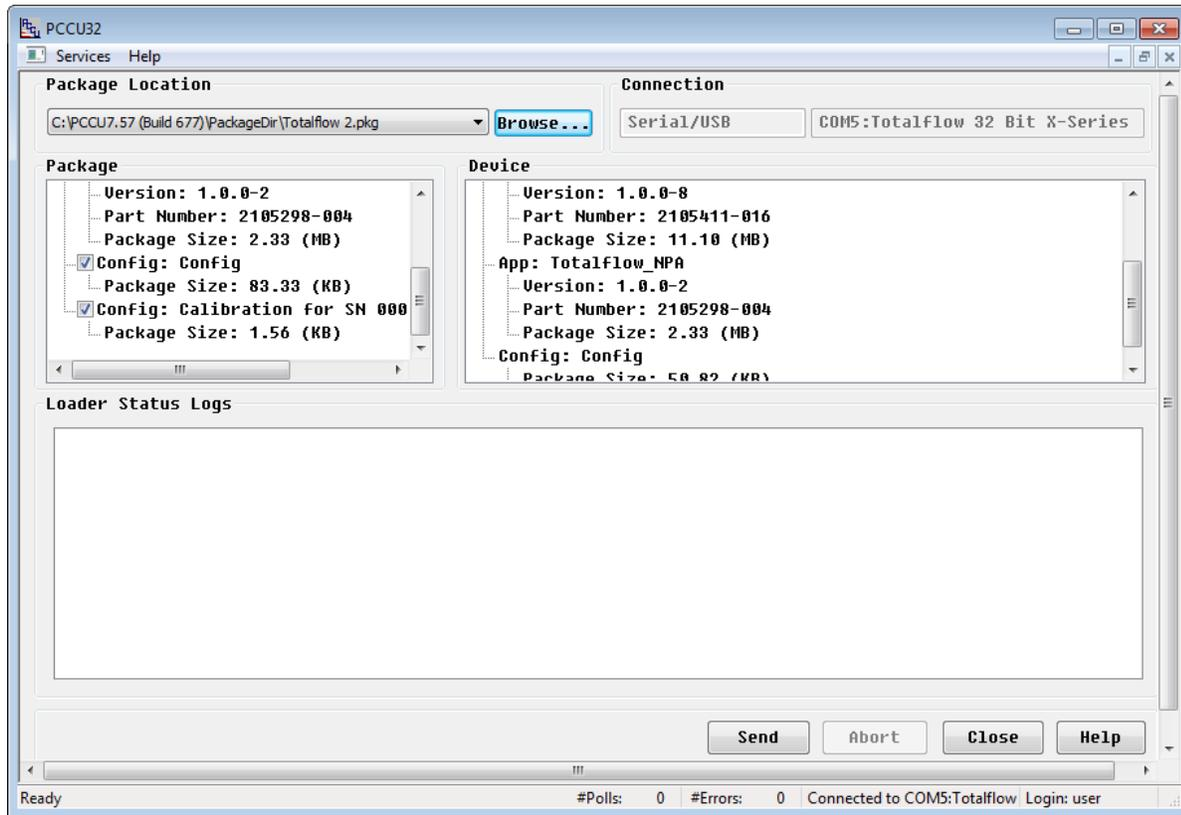

Figure 68: Restore the device configuration package
- Locate and select the configuration file package and click **Open**. The selected package details display in the Package field (Figure 68).